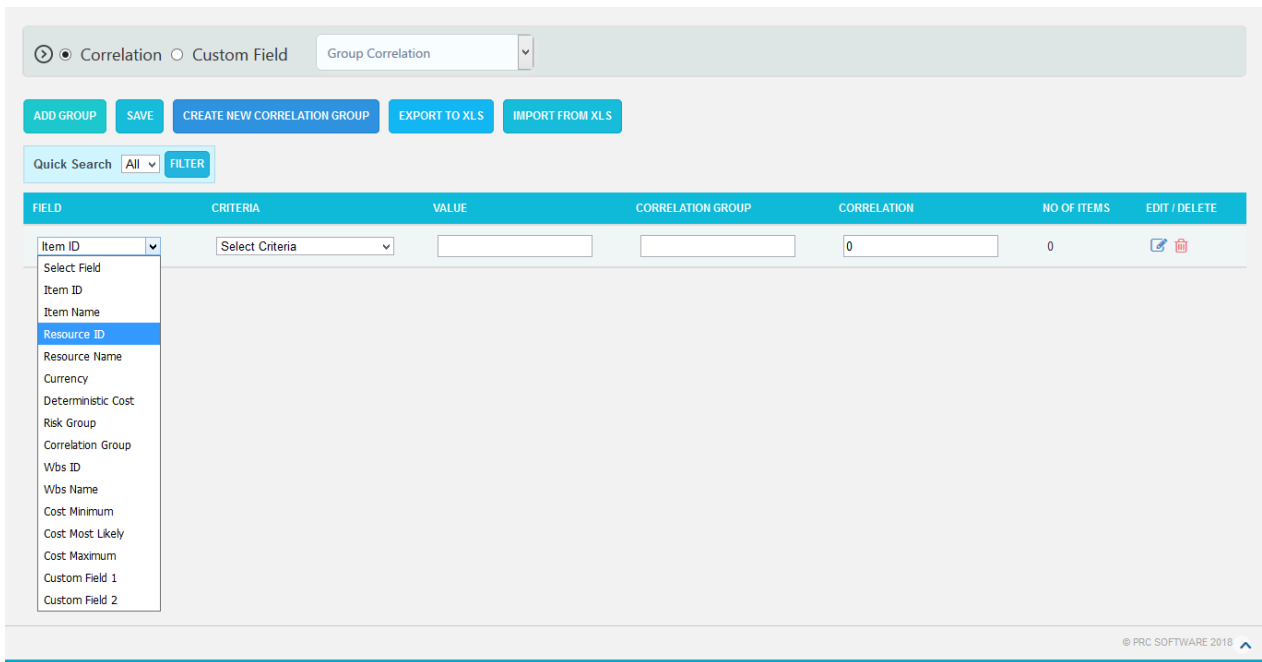

Figure 2.56
2. Click **ADD GROUP** button and select field, criteria and its value, and correlation coefficient based on which the correlations are given. (Figure 2.56)
3. Click **SAVE** button. (Figure 2.56)
4. To edit a group, click **Edit** icon and then save the changes. (Figure 2.56)
5. To delete a group, click **Delete** icon. (Figure 2.56)
2. Click **CREATE NEW CORRELATION GROUP** button to add correlation groups. (Figure 2.56)
2. Click **IMPORT FROM XLS** button. (Figure 2.56)